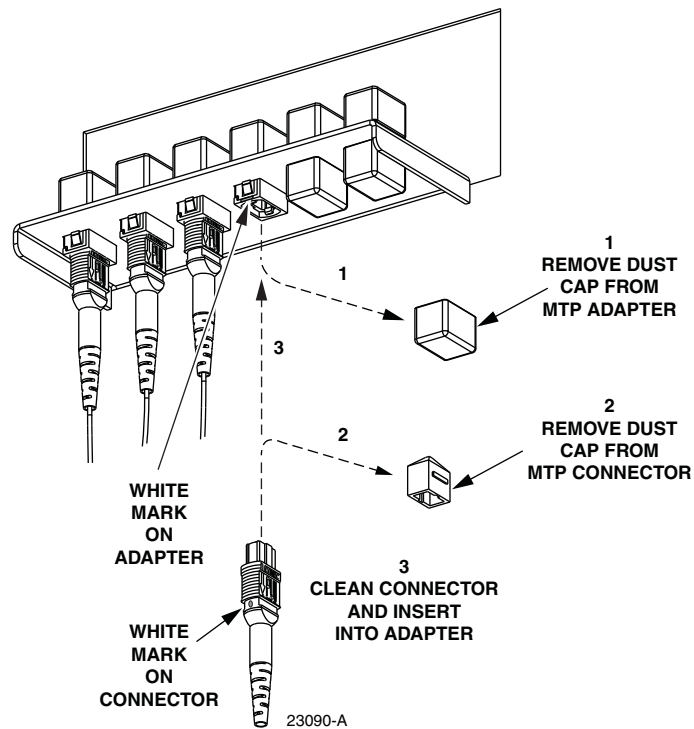

Figure 66. Connecting MTP Connector to MTP Adapter
6. Remove the dust caps from the bulkhead adapters and the subunit MTP connectors as shown in Figure 66.